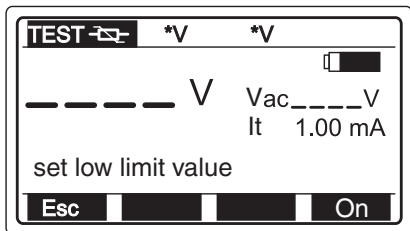

Figure 86: Limit Setting Menu
- ▶ For setting of the limit value, first press function keys F1 (Llim) or F2 (Hlim) to enter the limit setting menu, please refer to Figure 86: